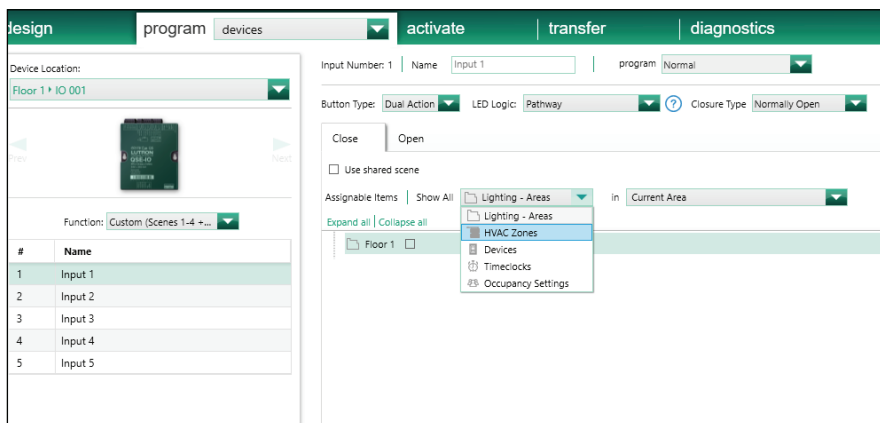

Figure 1
- In tab Program -> Devices, switch to HVAC zones as shown in Figure 1 below